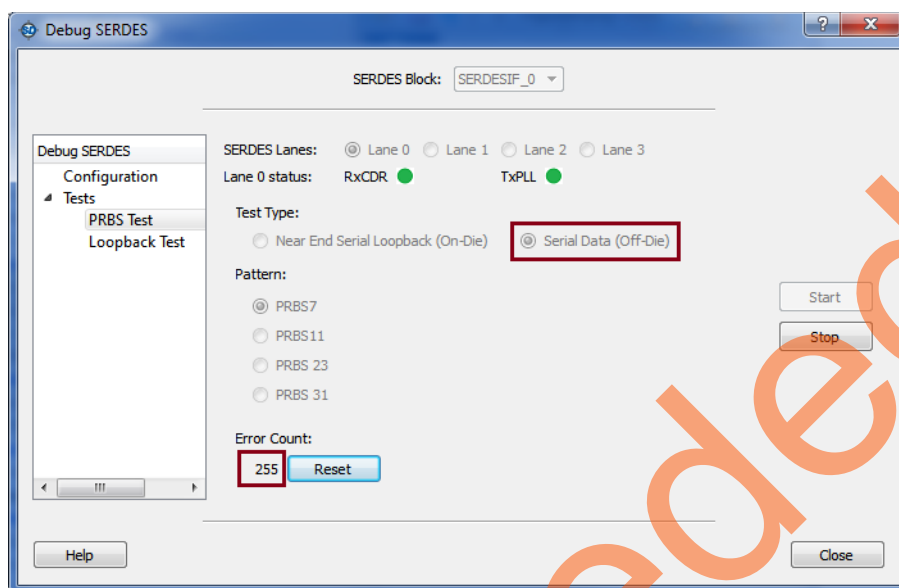

Figure 31 • Sending Serial Tx Data Off-Die
4. Click **Stop** and select **Serial Data (Off-Die)**. Click **Start** and observe the Lane 0 error counter, as shown in Figure 31. The error count increments up to 255, as the data is no longer looping between Tx and Rx and Lane 0 is not looped together on the PCB.